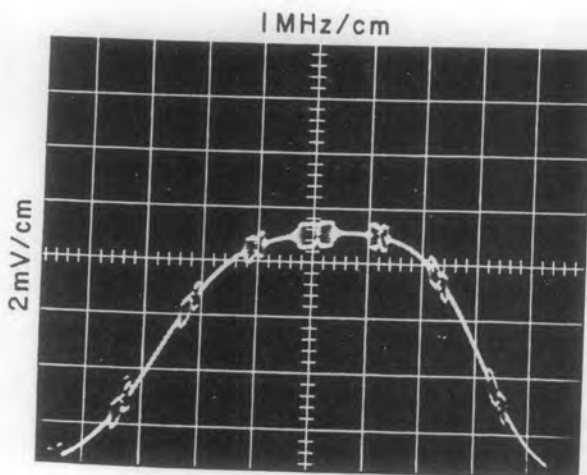
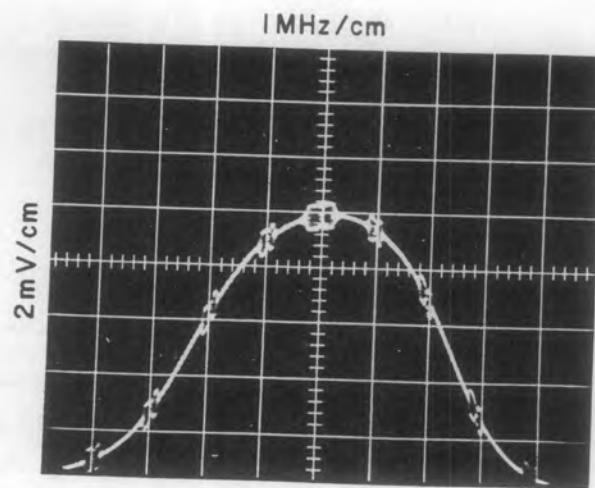

Figure 4-32. 240 MHz Overall RF Response
Figure 4-33. 500 MHz Overall RF Response
- (12) Tune the sweep generator, tuner, and signal generator to 240 MHz using a frequency counter to calibrate the signal generator.
- (13) Replace the cover and adjust the controls of the sweep generator and oscilloscope to produce a response. Adjust C17, C21, and C31 for a response characteristic similar to Figure 4-32.
- (14) Tune the sweep generator, tuning head, and signal generator to 500 MHz using a frequency counter to calibrate the signal generator.
- (15) Adjust the controls of the sweep generator and oscilloscope to produce a response. Remove the bottom cover and adjust L9, L11, and L14 for a response characteristic similar to Figure 4-33 (the inductors are adjusted by spreading or compressing the turns). Replace the cover and recheck the response characteristic.
- (16) Repeat steps (12) through (15) until the proper response characteristic is obtained at both ends of the tuning range.